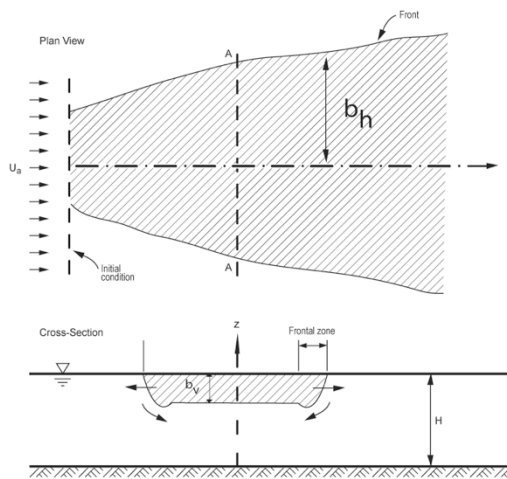

Figure 2-19: Typical Buoyant Spreading/Density Mixing Flow Patterns
- **Mixing** occurs at the "**head region**", much like a **density current** (Figure 2-19)